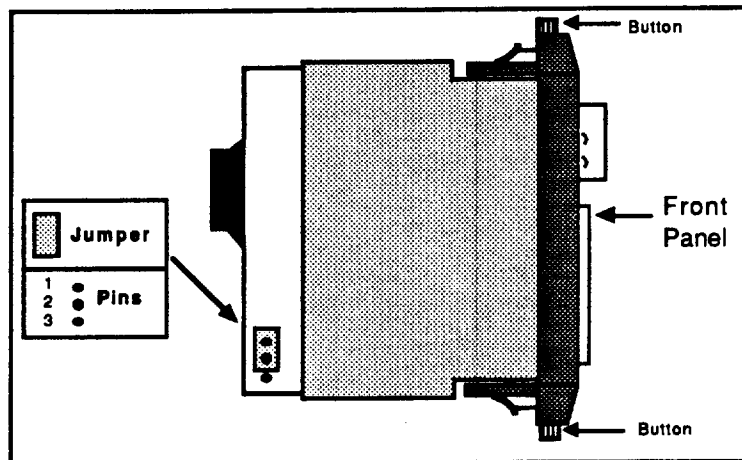

Figure 2-2. Location of Jumper for Standard Card Cage
- In a standard rack system, the jumper (refer to Figure 2-2) must be placed over pins 1 and 2. (***This is the default configuration.***)
- In an extended PLC cage, the jumper (refer to Figure 2-2) must be placed over pins 2 and 3. The jumper disables the 1XX (octal) addresses on the card.